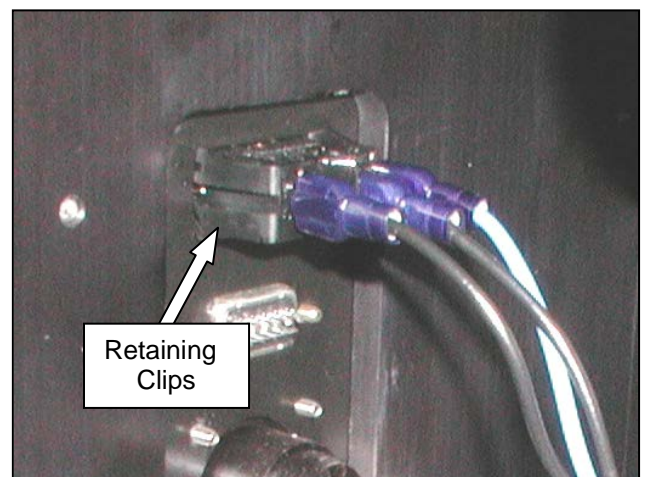

Figure 3-57. Back of Main Power Switch
4. The switch is held in place by four retaining clips, squeeze clips on either side of the switch while firmly pushing switch out of Rear Face Plate (Figure 3-57).